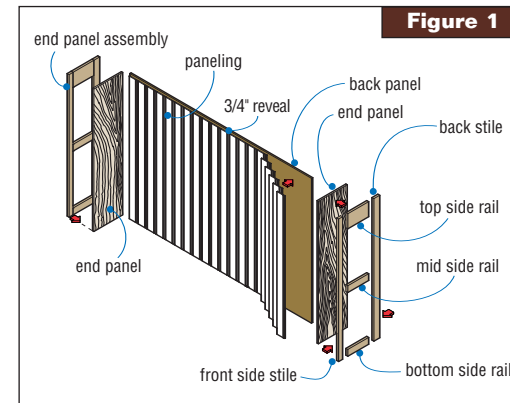

Figure 1
Step 1: Attach pine paneling to back panel, and construct end assemblies (see Figure 1).